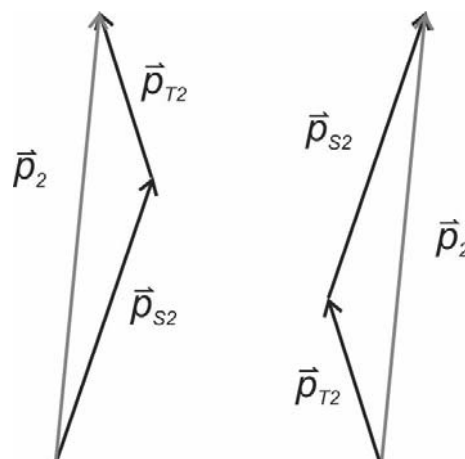

Figure6: Constructing the resultant momentum arrow of the discs after the collision, $\vec{p}_2$.
c) Next, we want to construct the **resultant momentum of the system of discs after the collision**, $\vec{p}_2$. Draw another arrow on your vector diagram starting at the tail end of $\vec{p}_{S2}$ and end its head at the head of $\vec{p}_{T2}$ - **figure 6**. Label it as $\vec{p}_2$, since it represents the resultant momentum of the discs after the collision. Note that if we started our constructions with $\vec{p}_{T2}$ and then joined up with $\vec{p}_{S2}$ we would have obtained the same vector arrow - **figure 6**. This will give us just the other half of the parallelogram.